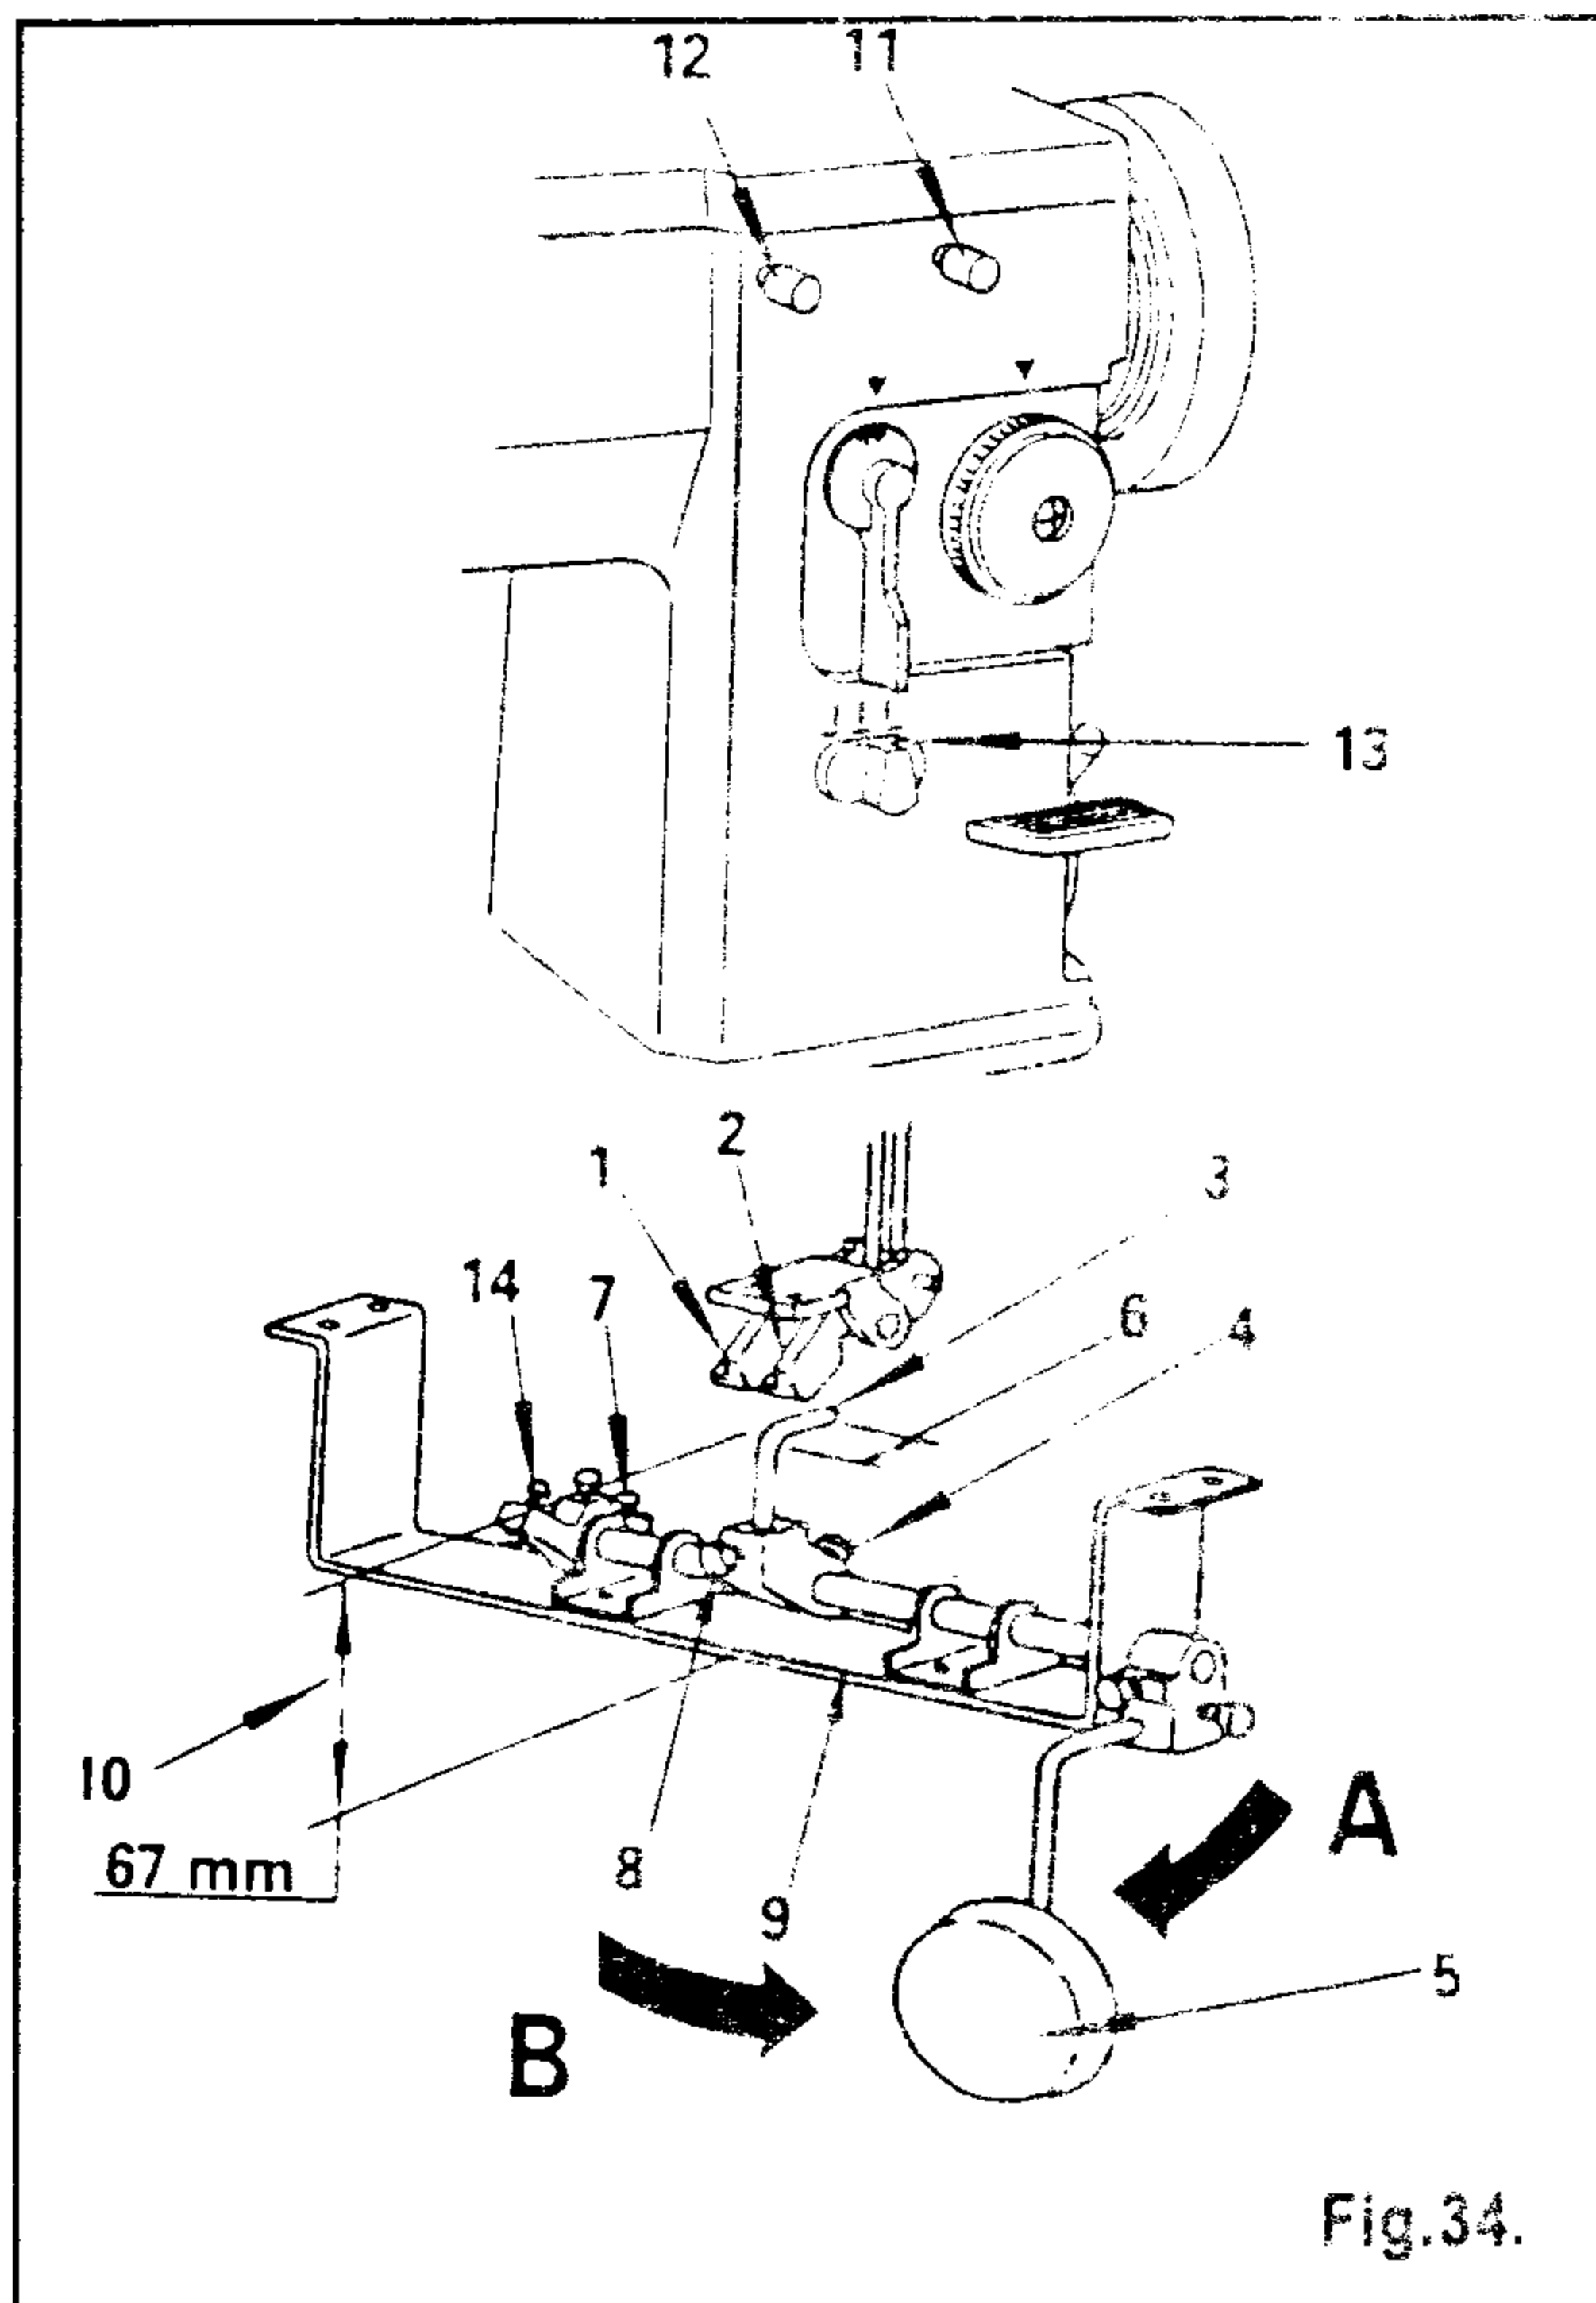

Fig.34.
Bell cranks (1) and (2) shown in Fig.34 are fastened to the underside of the bed. Bell crank (1) is used for lifting and lowering the presser foot with knee and bell crank (2) is used for controlling the stitch width.
To control the stitch width with knee, loosen screw (4) holding the knee lifter shaft arm (3) and move knee lifter shaft arm (3) just under the bell crank (2) and firmly tighten screw (4). (See Fig.34)
Loosen the lock nut holding screw (7) and turn screw (7) as required, so that the bent end (6) of knee lifter shaft arm will be almost horizontal when knee lifter knee plate (5) is pushed as far as it will go in the direction indicated with arrow (A). Then firmly tighten the lock nut. (See Fig.34)
With knee lifter shaft arm (3) set in position as described above, loosen screw (8) and move knee lifter shaft arm (3) up or down as required, so that height (10), from its bent end (6) to bracket is 67 mm. (See Fig.34)
Loosen stitch width regulating plate thumb screws (11) and (12) so that stitch width regulator (13) can be moved from zero to maximum stitch width. (See Fig.34) Loosen the lock nut holding screw (14) and turn screw (14) as required, so that knee lifter knee plate (5) when pushed in the direction indicated with arrow (B), will stop at the maximum stitch width position of stitch width regulator (13). Then firmly tighten the lock nut. (See Fig.34)
Stitch width will become wider when knee lifter knee plate (5) is pushed in the direction indicated with arrow (B) and will become smaller when knee plate is released. (See Fig.34)